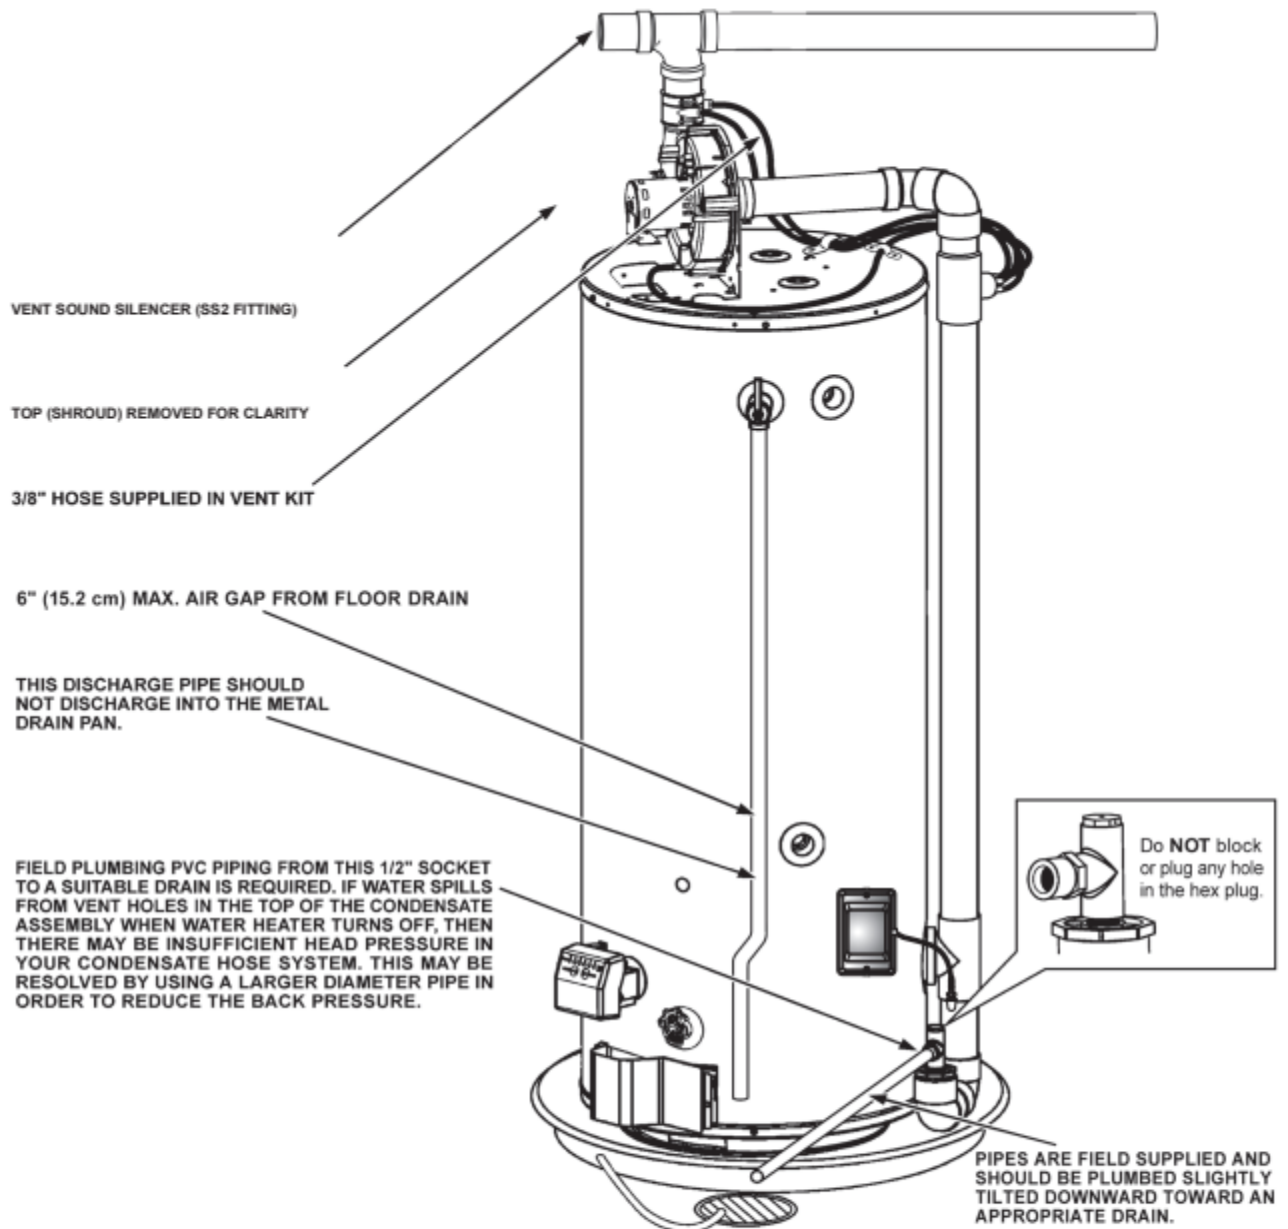

Figure 2. Features and Components - Left Side
5. Carefully plan the place where you are going to put the water heater. Correct combustion, vent action, and vent pipe installation are very important in preventing death from possible carbon monoxide poisoning and fires, see **Figure 1** (page 7) and **Figure 2** (page 8).